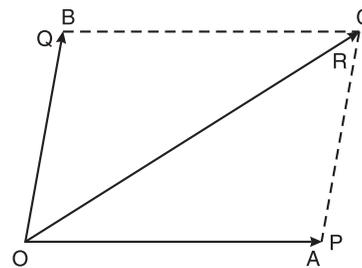

Fig. 1.2
3. **Parallelogram law of forces:** This law states that if two forces acting at a point are represented in magnitude and direction by the two adjacent sides of a parallelogram then their resultant is represented in magnitude and direction by the diagonal of the parallelogram. The diagonal passes through the point of intersection of the two sides representing the forces. If P and Q are the two forces acting at a point O and represented by the sides OA and OB of a parallelogram respectively, as shown in Fig. 1.2, then their resultant R is represented by the diagonal OC .